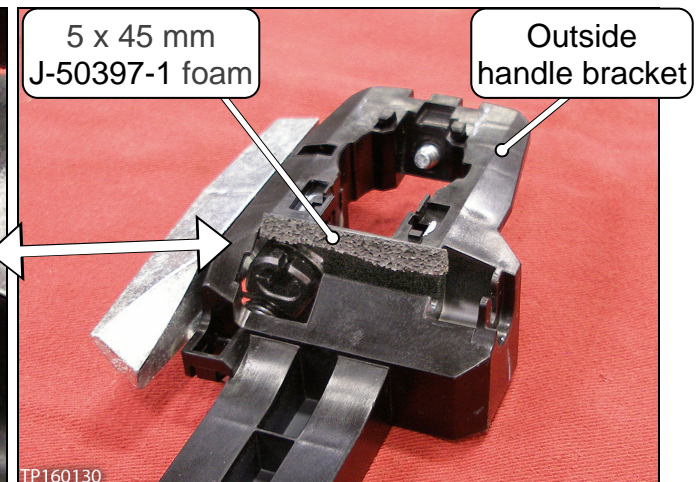

Figure 5
2. For the outside handle bracket: Cut two (2) pieces of foam:
- Foam dimensions (both pieces): 5 x 45 mm (see Figure 5).